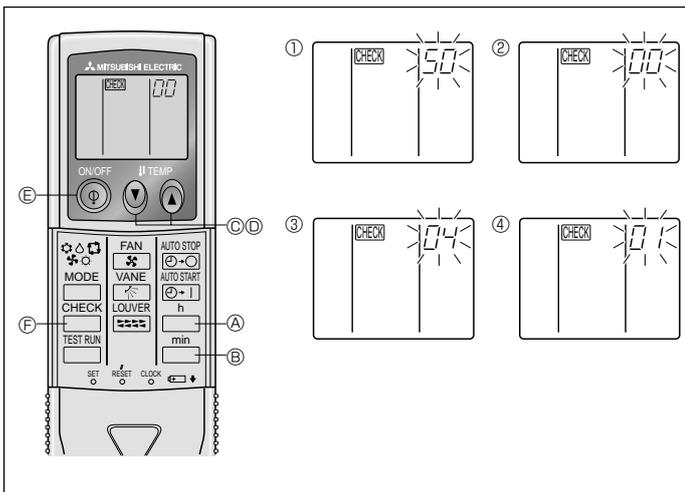

Fig. 6-10
⑧ Press the MODE button (E) and mode and the setting number (I) and (II) will change to being on constantly and the contents of the setting can be confirmed.
⑨ Press the FILTER (A) and TEST RUN (B) buttons simultaneously for at least 2 seconds. The function selection screen will disappear momentarily and the air conditioner OFF display will appear.
2) For wireless remote controller (Fig. 6-10)